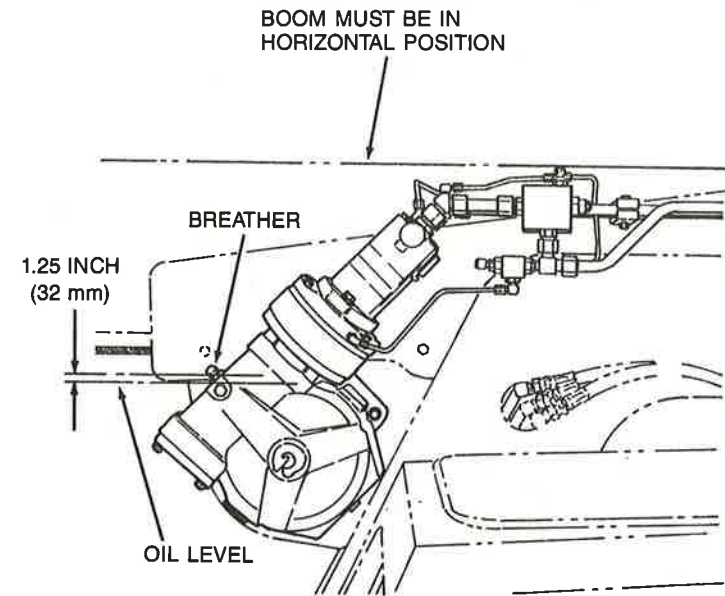

Figure 56. Winch Gearbox
17. WINCH GEARBOX - Check oil in gearbox weekly or every 10 hours. For correct indication, the boom must be in the horizontal position. The correct oil level is indicated in Figure 56.